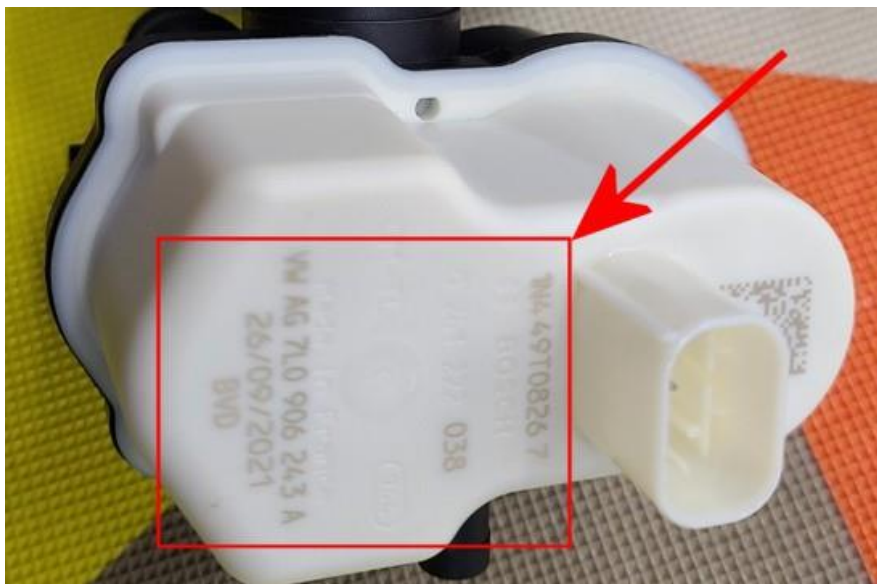

Figure 4
- Take a clear photograph ensuring all assembly information is clearly visible (See the example shown in Figure 4)
- Photograph of the leak detection pump information as shown in Figure 4